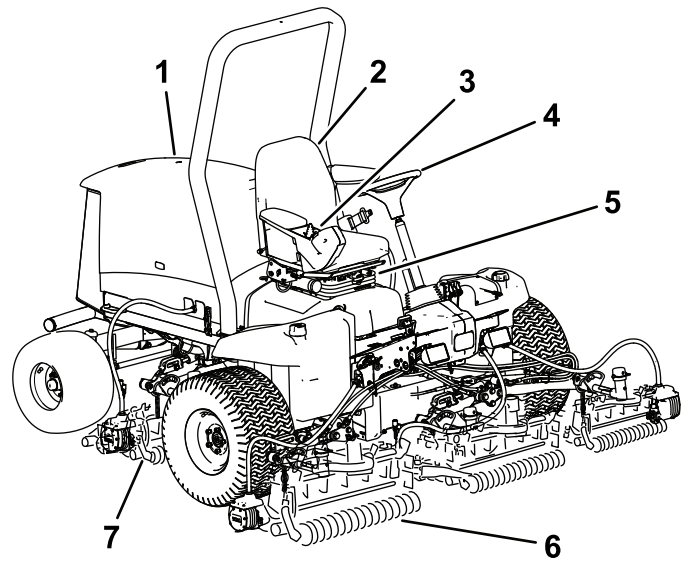

**Figure 39**
1. Use rubbing alcohol and a clean rag to clean the surface of warning decal 133-2930, and allow the decal to dry (Figure 39).